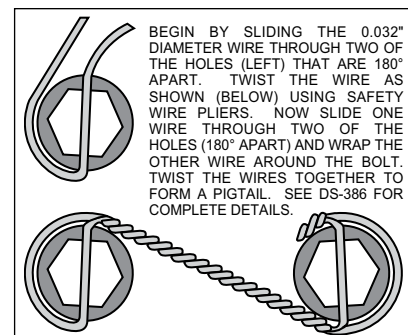

Figure 3. Safety Wire Diagram
•The caliper mounting bracket (1) should be installed first with clean, dry threads on the mounting bolts. **NOTE:** Caliper bracket provided has mount points to allow mounting to rear ends that use either 11.66" diameter or 10.51" diameter rotors. Mount point (A) is for rear ends with 11.66" OE rotors, mount point (B) is for rear ends with OE 10.51" rotors. Install the bracket (1) on the outboard side of the stock bracket by sliding bolt (2) from the inboard side of the hub assembly through washer (3) and the sleeve (4) which is inserted inside the existing OEM caliper mounting holes. Place two shim washers (16) between the hub and the caliper mounting bracket (1). The mounting bracket (1) must tighten squarely against the outboard side of the stock bracket face. Inspect for interference from casting irregularities, machining ridges, burrs, etc. Use two shims (16) between the mounting bracket (1) and stock bracket during initial trial fitting.
•With the larger I.D. side of the rotor (6) facing away from the hat (7), bolt rotor (6) to hat (7) through the backside of the rotor using washers (8), and bolts (9). Apply red *Loctite*® 271 to the bolt threads and torque to 155 **in-lb** using a criss-cross pattern. For an added measure of security, the bolts may be safety wired using standard 0.032 inch diameter stainless steel safety wire as shown in Figure 3. Please refer to Wilwood's data sheet DS-386 (available at [www.wilwood.com/pdf/DataSheets/ds386.pdf](http://www.wilwood.com/pdf/DataSheets/ds386.pdf)) for complete safety wire installation instructions.
•Slide the brake pads (15) up into the caliper (10) from the bottom until the "v" spring clip snaps into place against the anvil. They should install easily without interference.
•Install two shims (14) over each stud (13) on the radial mount bracket (2). Slide the caliper (10) in place over the studs and rotor and install the washer (12) and lock nut (11) to hold the caliper in place. The caliper bleed screw should be pointing toward the rear of the vehicle. Snug the lock nuts (11) and check that the caliper (10) is centered over the rotor (6). Add or subtract .016" shims (5) and/or .030 shims (16) as necessary between the caliper mounting bracket (1) and the stock bracket to center the caliper (10) on the rotor (6).
•Check that the outside radius of the brake pad (15) is aligned with the outside diameter radius of the rotor face. Add or subtract shims (14) between the caliper (10) and caliper mounting bracket (1) to gain the proper alignment.
•Once all clearances have been checked, remove the wheel, caliper and rotor from the axle flange. Secure the caliper mounting bracket (1) to the spindle face while applying red *Loctite*® 271 on the bolt threads (2). Torque the bolts (2) to 35 ft-lbs.. Reinstall the rotor and again use several lug nuts to hold it in place. Reinstall the caliper, torque the caliper nuts (11) to 30 ft-lbs.